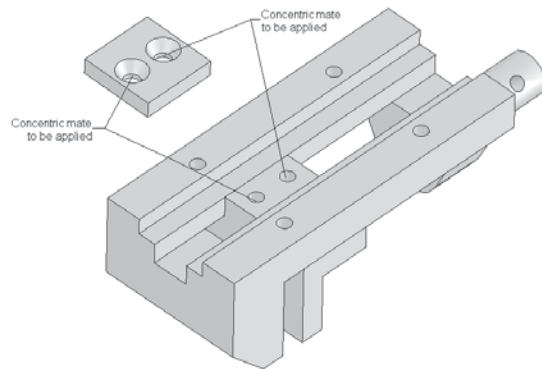

Figure 11-69 Faces to be selected to apply mate
4. Apply the **Concentric** mate between the two cylindrical faces of the clamping plate and the two holes of the Vice Jaw, refer to Figure 11-69. You may have to move the Clamping Plate after applying the first mate.